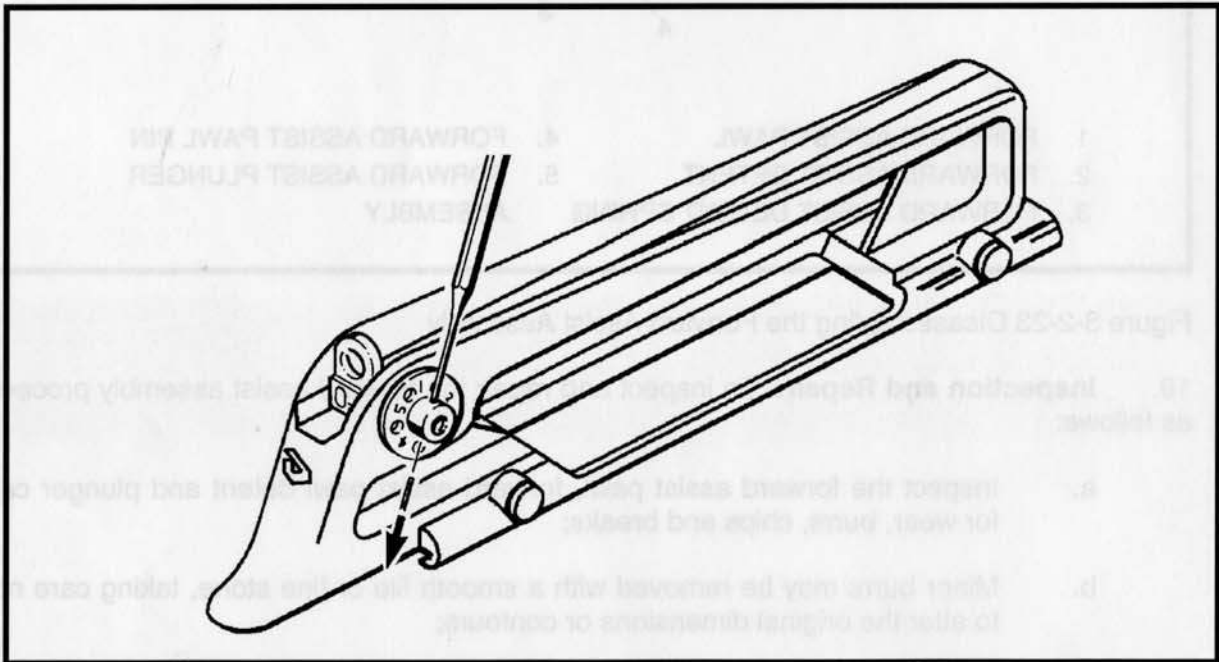

Figure 3-2-24 Removing the Windage Drum Pin
- a. Carefully drive out the windage drum pin with a suitable punch. See Figure 3-2-24;